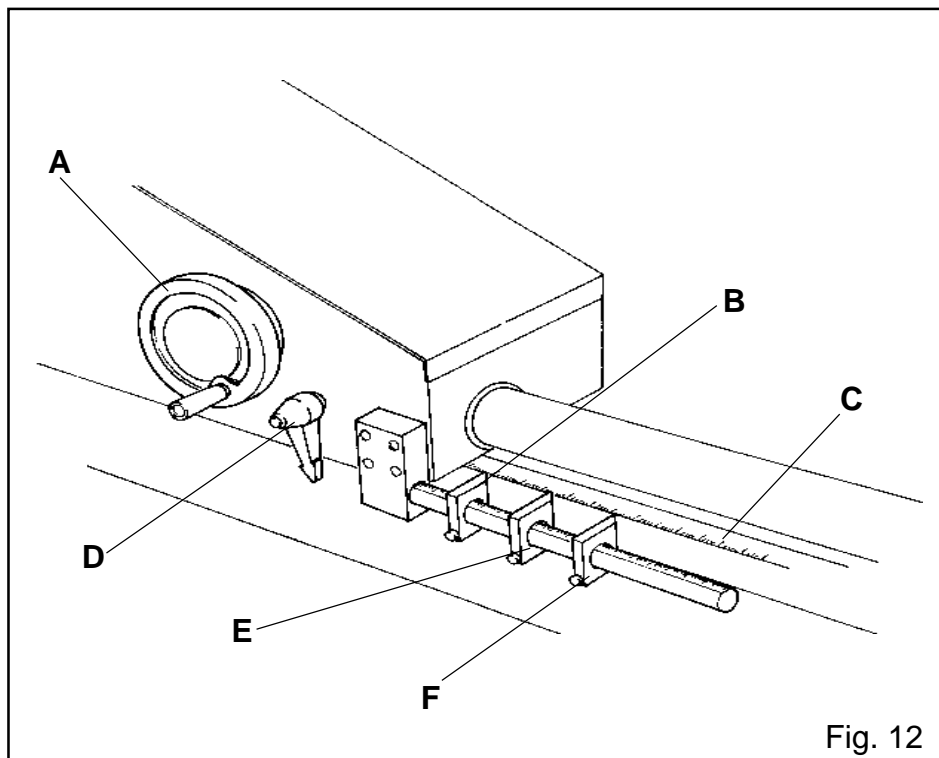

Fig. 12
- Turn handwheel A (Fig.12) in order to move the head to expected position indicated by arrow B (Fig.12) on millimetrical tape C (Fig.12).
- Block the head by means of lever D (Fig. 12).